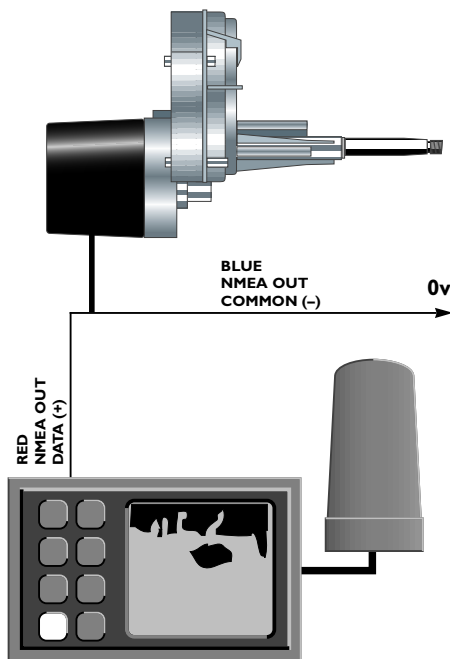

Fig 5.13 - Connecting using NMEA interface : no Common (-) wire
- If the equipment does not have a NMEA Common (or -) connection, the NMEA Common terminal of the SCP12 course computer should be connected to ground by linking it to the BATT - terminal (Fig 5.13).